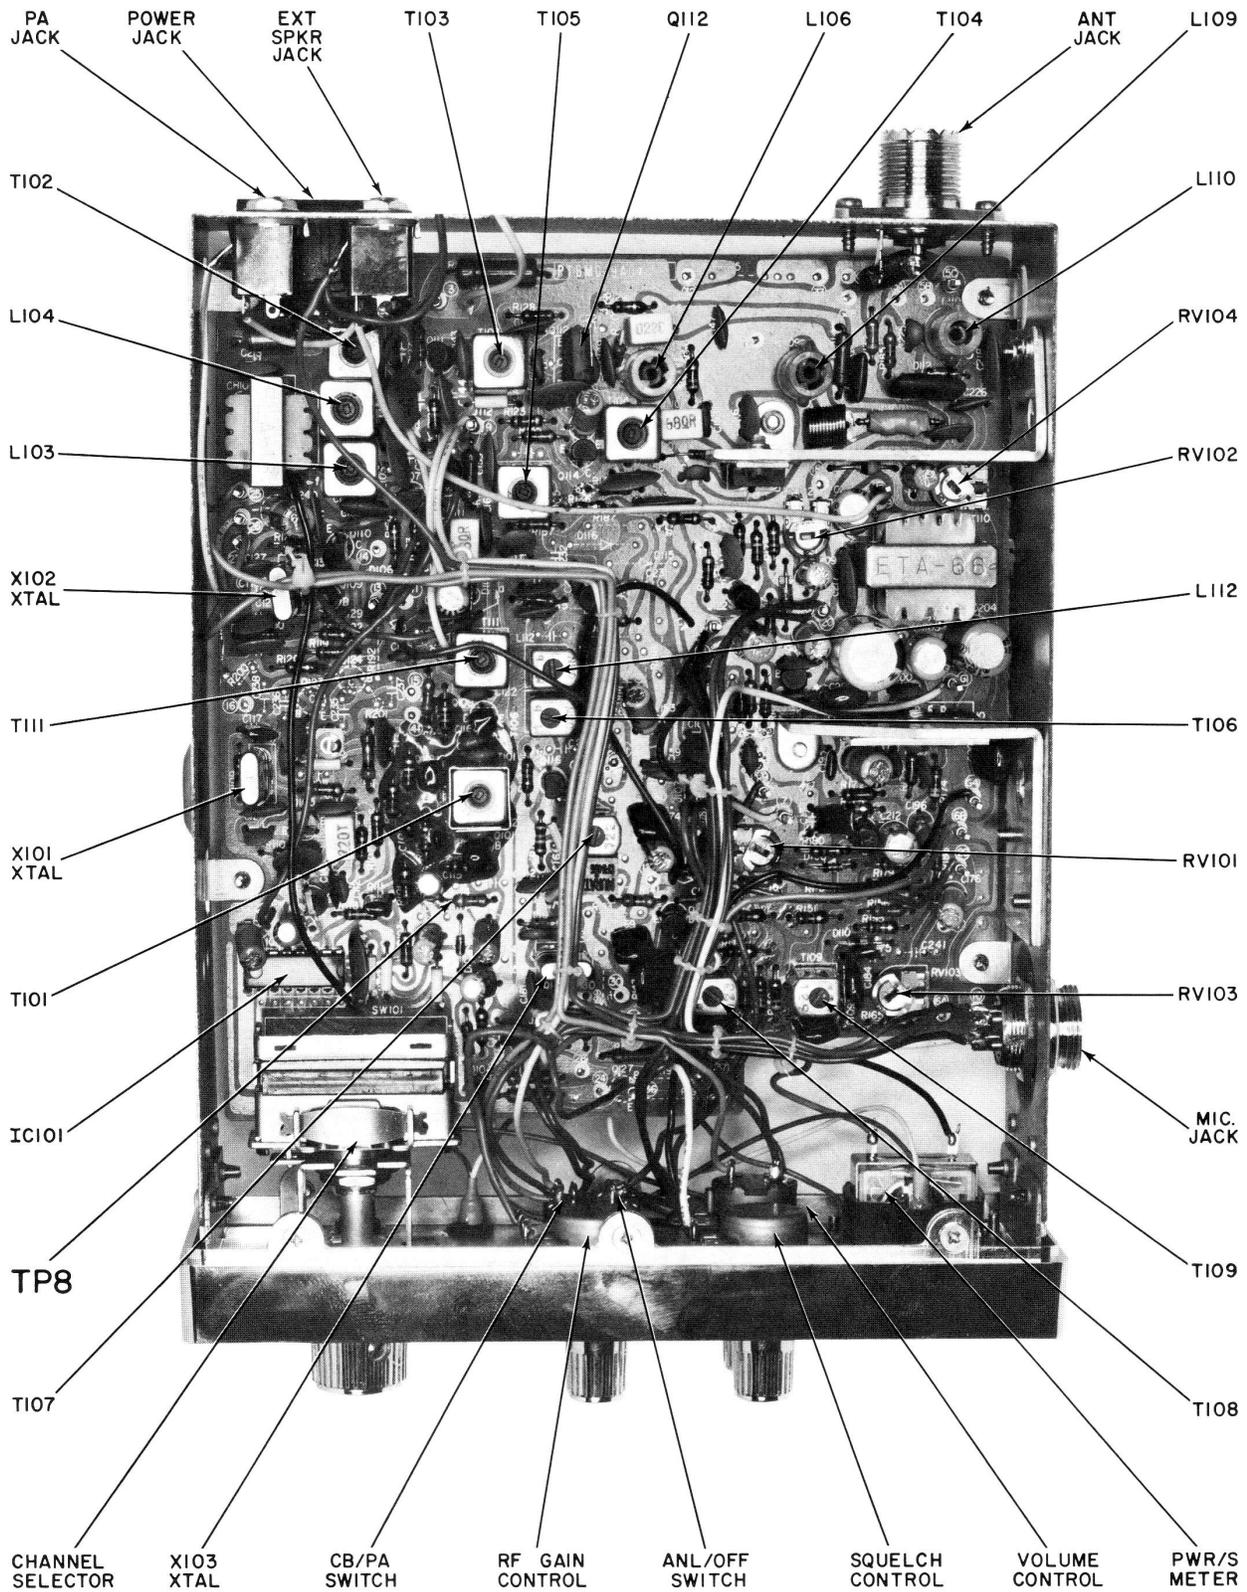

Figure 8 — Bottom (Component) View of Model 14T300
Figure 10 of the printed circuit board incorporate map grid coordinates at the sides of the illustration. These coordinates are keyed to corresponding key numbers in the replacement parts list, for instant location of smaller parts. Major components, not shown in Figure 10 are shown in views Figures 8 and 9. Exploded views identify all mechanical parts by means of balloon callouts. These balloons key to corresponding balloons shown in the mechanical parts list section.
- Connect DC Voltmeter, set to 5 V range, between ground and R114 high side at TP8, see Figure 8. (Meter input impedance should be 20k ohm/volt or higher).
- c. Refer to Figure 8 and adjust T111 (Buffer 3, Q108 output) and T104, T105, L112, T106, T108 and T109, in this order, for maximum audio output across the 8 ohm dummy speaker load. Keep reducing the generator input signal as adjustment is made to avoid inaccuracy due to AGC action. Make final adjustments at low input level. Repeat adjustment to achieve maximum alignment accuracy at low level, signal level at 1 uV or less.
- c. Adjust RV-101, see Figure 8, for maximum audio output on VTVM and scope connected across 8 ohm dummy speaker load. Note the output level. Slowly turn RV101 to decrease the output level by 60 dB, this will be indicated by a rapid cut-off of the audio output signal.
- b. Adjust RV103, see Figure 8, so that RF meter pointer reads "9" on the meter.